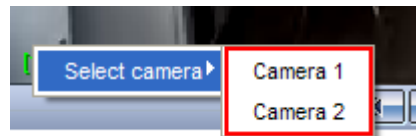

Fig. 4.16-11 Selecting a camera
1. Choose, appropriately, the camera, the archive of which will be accessed, using the functions menu of the video surveillance window (see Fig. 4.16-11).